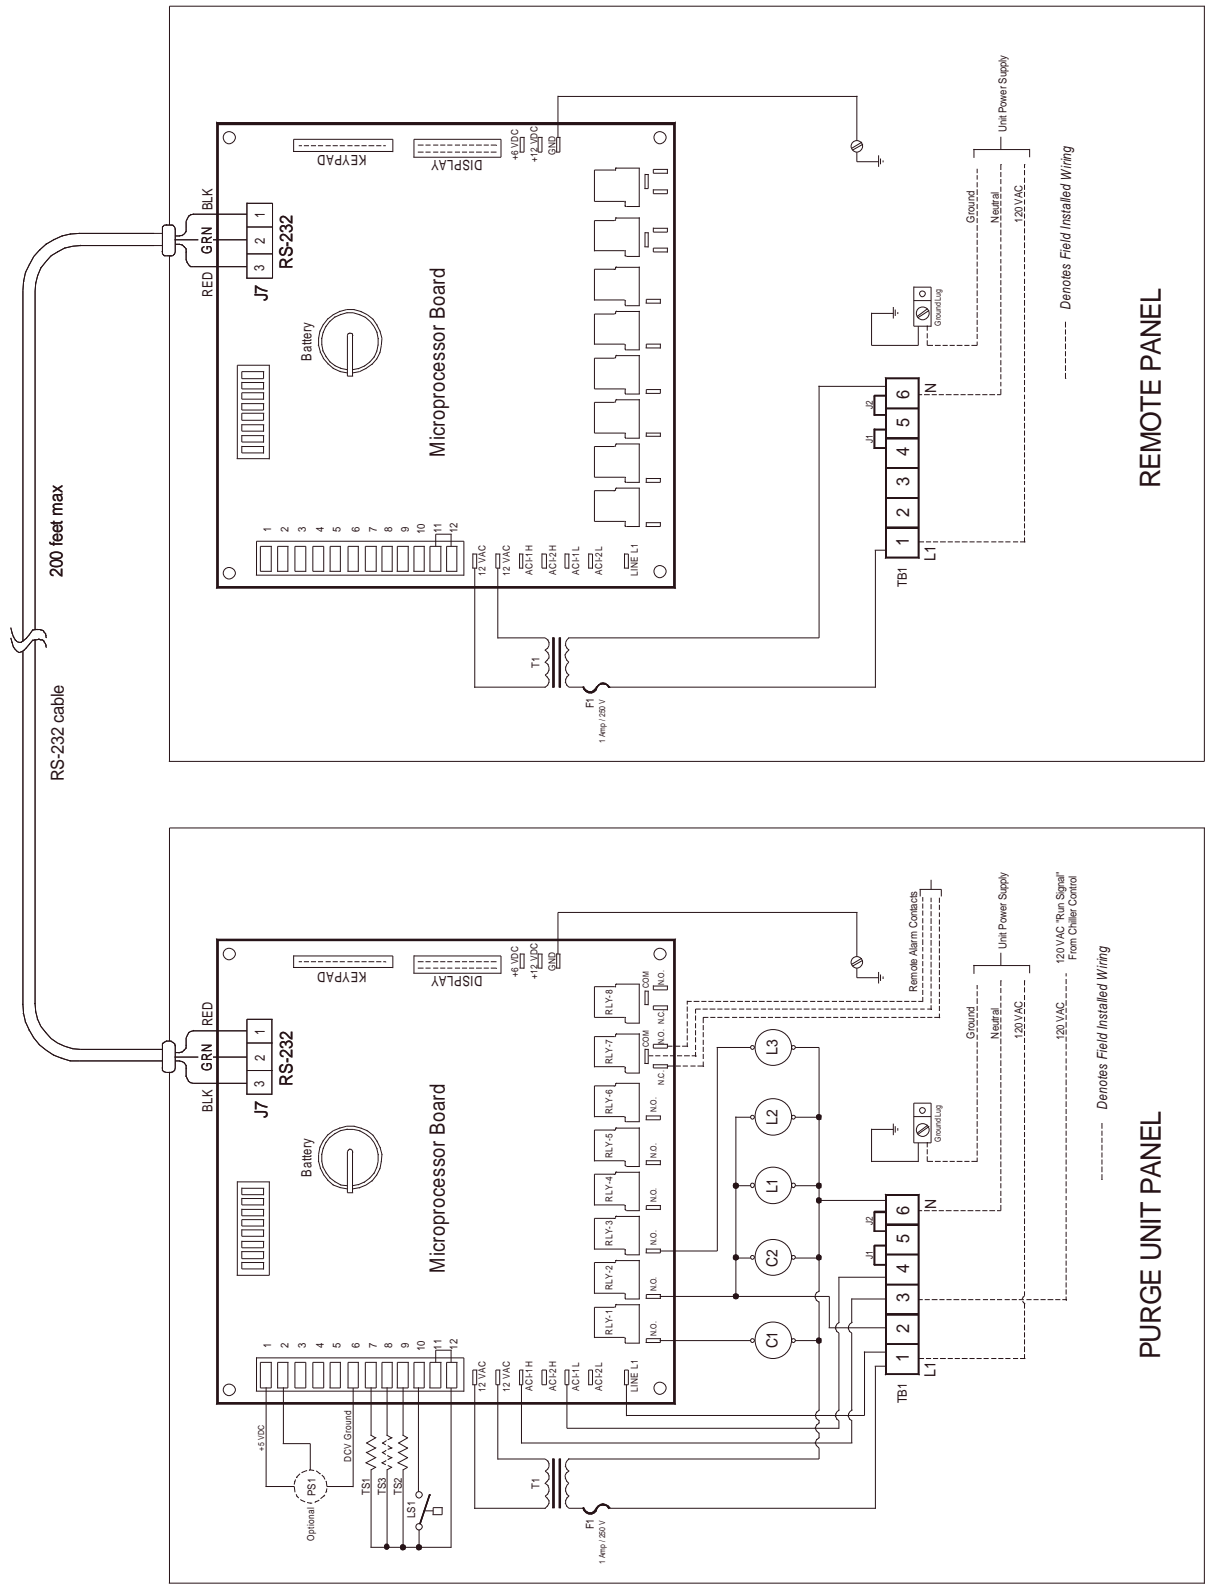

Figure 1.
3. Connect grounding wire to the ground lug in the control panel (see Figure 1)
4. **Route one end of the 3-wire RS-232 cable into the remote panel** through one of the access holes with a black nylon grommet located on the back of panel. Connect the three wires to the RS-232 (J7) connector at the top right of microprocessor board (see figure 1 Remote Panel). Connect the three wires as follows:
5. Route opposite end of the **RS-232 cable into the Purge Unit Control Panel** through one of the access holes with a black grommet located on the back of panel. Connect the three wires to the RS-232 (J7) connector at the top right of the microprocessor board (see figure 1 Purge Unit Pane). Connect the three wires as follows:
1. Apply power and verify for proper voltage at terminals TB1-1 and TB1-6 (see figure 1). The voltage should be between 103 and 127 volts.